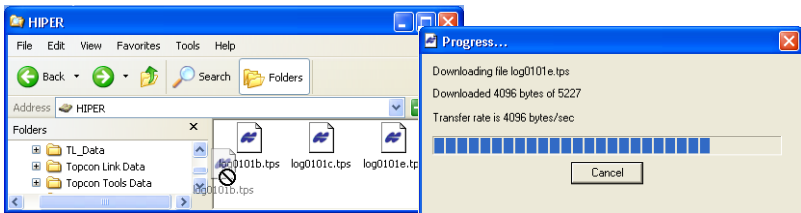

Figure 5-4. Start of File Import from the TPS Receiver/Import in Progress
7. To import the file(s) from the receiver to a folder, select the file(s), and copy to the folder using the drag-and-drop method (Figure 5-4).